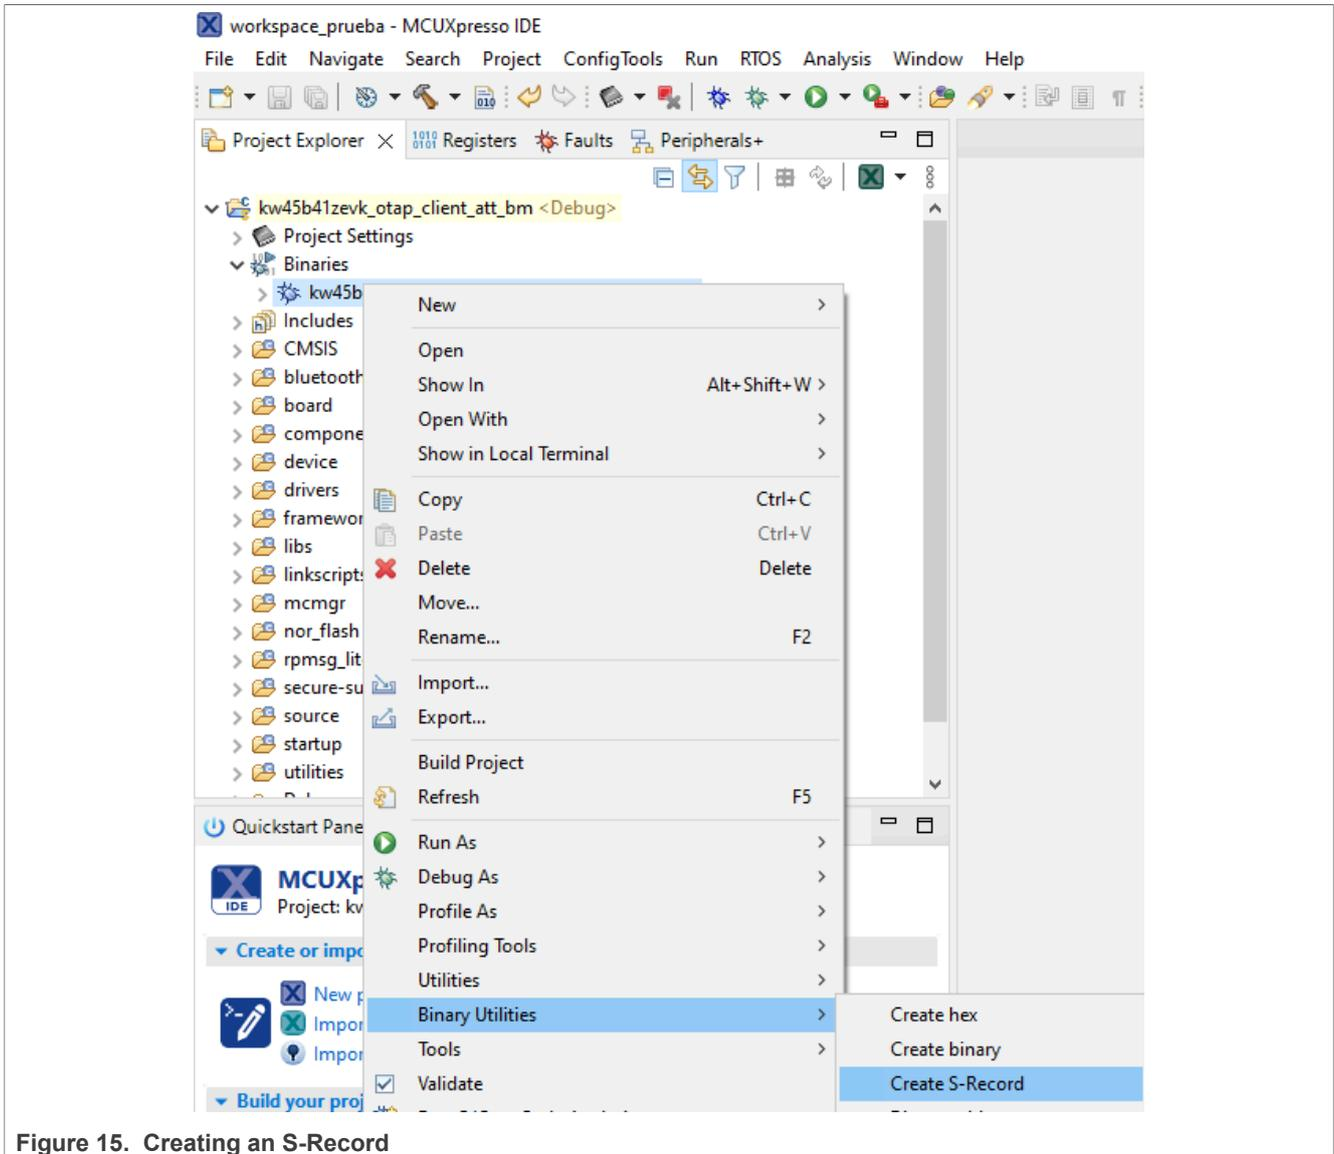

Figure 15. Creating an S-Record
5. Click the right mouse button on the `.axf` file and select **Binary Utilities -> Create S-Record**. The S-Record file is saved at the Debug folder in the workspace with `.s19` extension. This is shown in Figure 15.